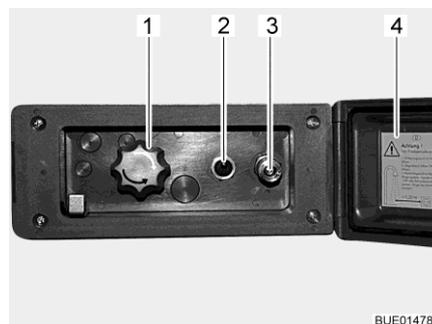

Fig. 97 External shower connection point
- Unlock and open the cover (Fig. 97,4).
- Attach hose of the external shower to the quick closure (Fig. 97,3).
- Switch on the water pump using the switch (Fig. 97,2).
- Adjust the water temperature with the rotary knob (Fig. 97,1) as desired.
- Switch off the water pump using the switch (Fig. 97,2).
- Close the cover (Fig. 97,4) and lock with key.
- Turn knob (Fig. 97,1) to the central position.